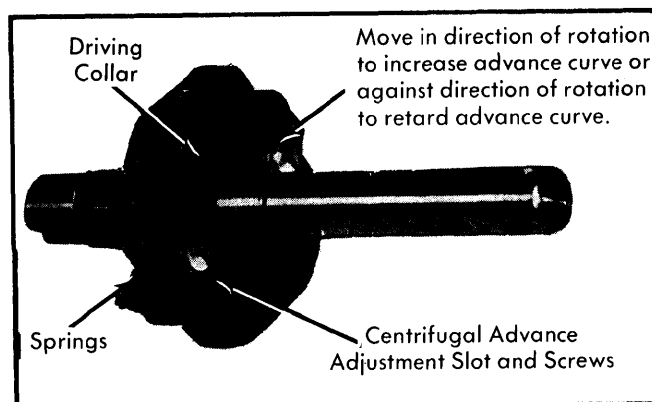

Fig. 2 Centrifugal Advance Adjustment (Driving Collar)
2) If distributor has adjustable driving collar for centrifugal advance, disassemble and lift shaft out. See Fig. 2. It is not necessary to remove breaker cam assembly from shaft. To adjust, loosen screws retaining driving collar. If collar is turned in direction of rotation, the advance curve rises. Turning collar in opposite direction of rotation will lower the curve.